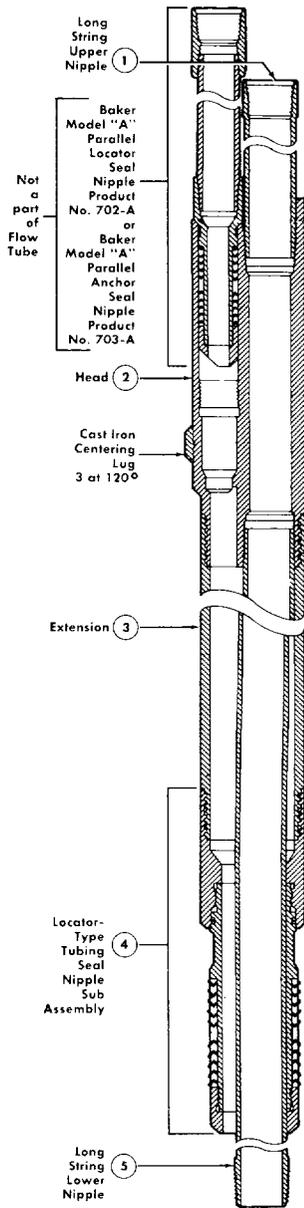

Fig. 8
3. Baker Model "A" Full Opening, Parallel Flow Tube, Product No. 700-A. (Refer to Figs. 8 and 9.)